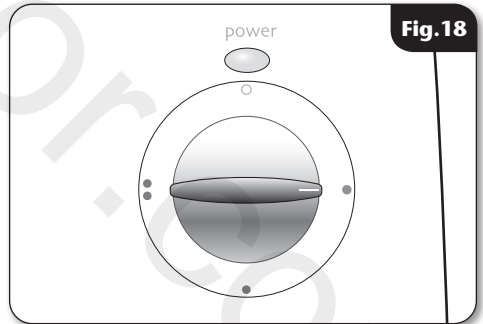

Fig.18
- Turn the power selector to the 'COLD' position (**fig.18**) and wait until water starts to flow from the flexible hose.